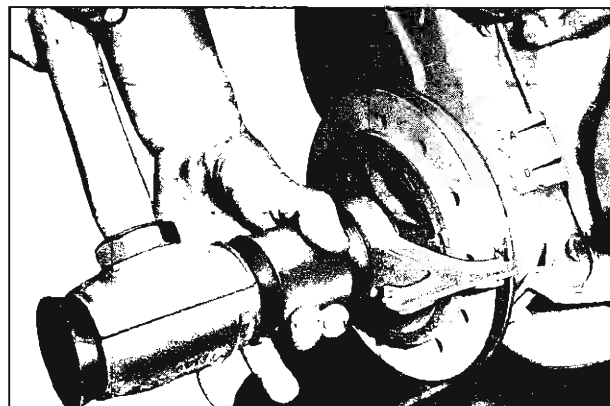

Fig. 14L—Installing Harmonic Balancer
2. Attach balancer installer tool to balancer (fig. 14L).